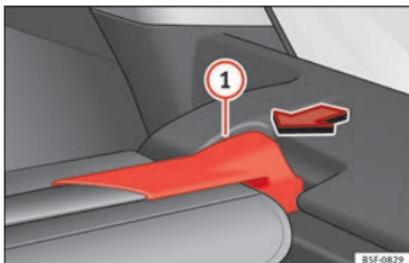

Fig. 163 In the luggage compartment: removing the rear shelf.
- Press the rear shelf support »» **Fig. 163 1** in the direction of the arrow.
- Engage the support of the rear shelf »» **Fig. 163 1** in the right housing.
- Check that the support »» **Fig. 163 1** is properly engaged.